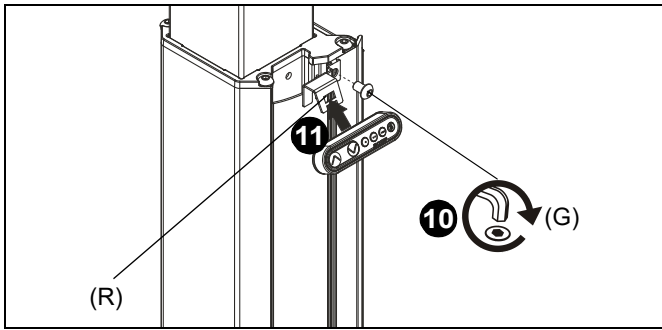

Figure 5
10. Attach control pad bracket (R) to column assembly (T) using 5/16-18 x 1/2" button head cap screw (G). (See Figure 5)
11. Secure control pad (E1) into control pad bracket (R). (See Figure 5)